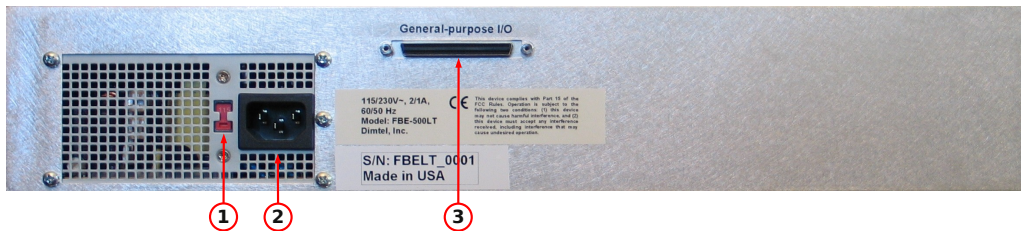

Figure 3: Rear panel features
WARNING: Before connecting power to the unit make sure the voltage selection switch (Fig. 3, item 1) is in the correct position (115 or 230 V).
1. Configure voltage selection switch (Fig. 3, item 1). Mains supply requirements for the FBE-167LT are listed in Table 4;
9. Using the supplied 68-pin GPIO cable connect the iGp/iGp12 interface (Fig. 3, item 3) to the GPIO connector on the iGp/iGp12;